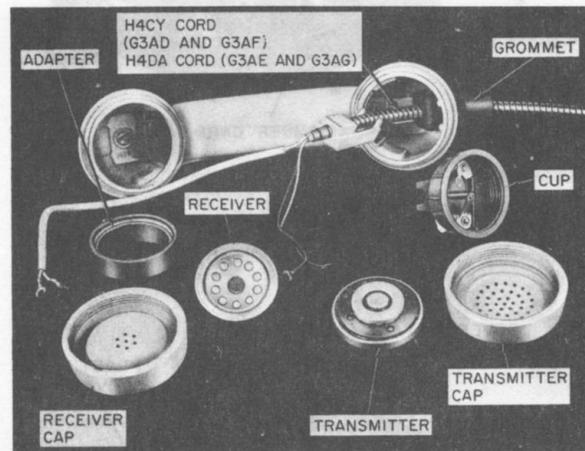

Fig. 2—G3AD, G3AE, G3AF, and G3AG Handsets
2.13 The G3AD, G3AE, G3AF, G3AG, G3AR, G3P, G3R, G3S, and G3T handsets are rated MD. The G3AH replaces the G3AD and G3P. The G3AJ replaces the G3AE and G3R. The G3AK replaces G3AF and G3S. The G3A6 replaces the G3AR, and the G3AG replaces the G3T. The G3AD, G3AE, G3AF, and G3AG handsets contain the LA2 receiver mounted on 840360846 adapter (Fig. 2).